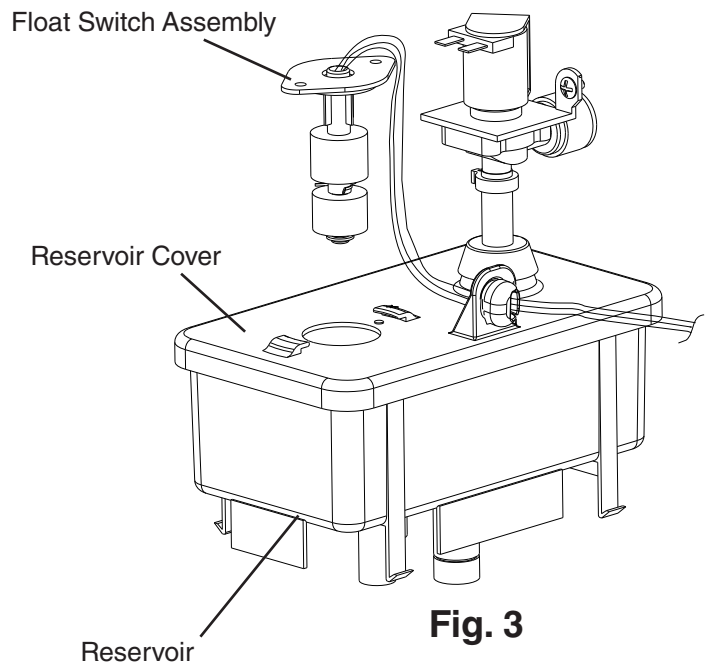

Fig. 3
- 3) Remove the float switch assembly from the reservoir cover. See Fig. 3.